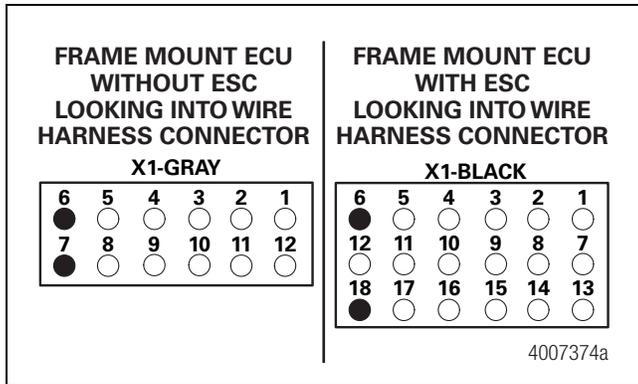

**Figure 3.46**
- For resistance measurements, the vehicle battery must be disconnected and the ignition must be OFF. Figure 3.46, Figure 3.47, Figure 3.48 and Figure 3.49.